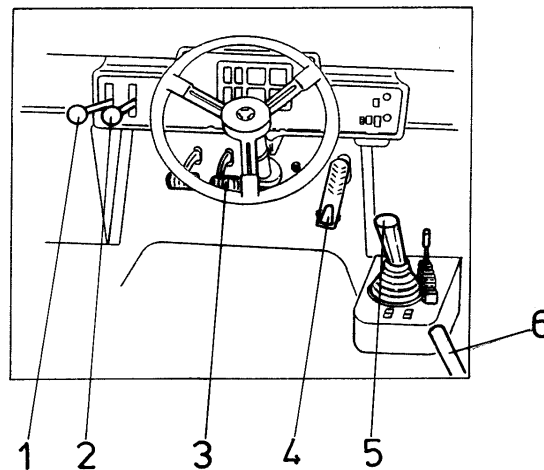

Fig. 4.25. Driving and Stopping the Machine (Upgraded Version)
The transmission has three forward gear ranges, three reverse gear ranges, and neutral, which are manually selected with transmission gear range lever (1, Fig. 4.25) and direction lever (2, Fig. 4.25). The transmission is full powershift type and any gear range or direction can be changed at any time without stopping the machine.
4.15. STOPPING THE MACHINE (Fig. 4.25)